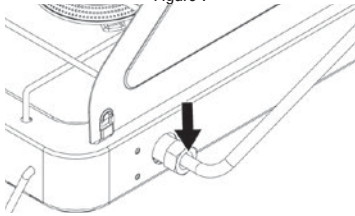

Figure 8
- Wearing heat-resistant gloves, position a long lit match or long lit butane lighter near the side of the burner (Figure 8).